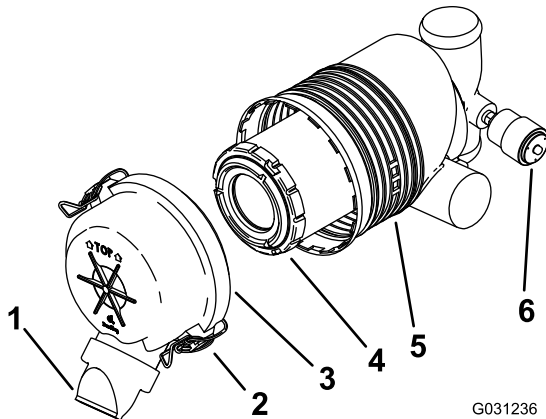

Figure 43
Important: Replace the air-cleaner filter only when the service indicator shows red (Figure 43). Changing the air filter before it is necessary only increases the chance of dirt entering the engine when you remove the filter.
5. Release the latches on the air cleaner and pull the air-cleaner cover off the air-cleaner body (Figure 43).
- If the service indicator is clear, install the air-cleaner cover with the dust cap oriented downward and secure the latches (Figure 43).
1. Gently slide the filter out of the air-cleaner body (Figure 43).
3. Carefully install the filter (Figure 43).
4. Install the air-cleaner cover with the dust cap oriented downward and secure the latches (Figure 43).